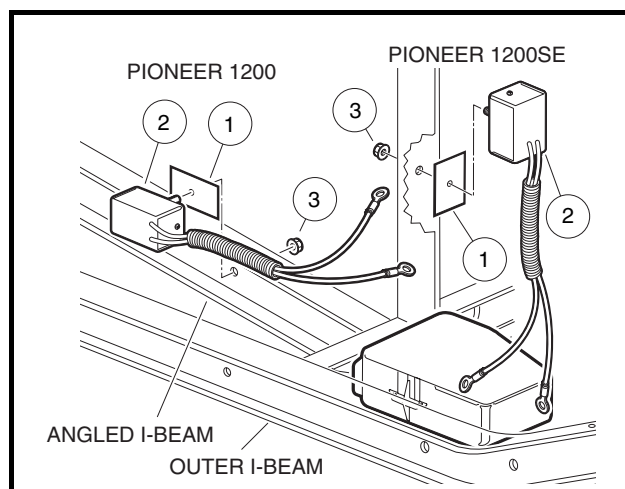
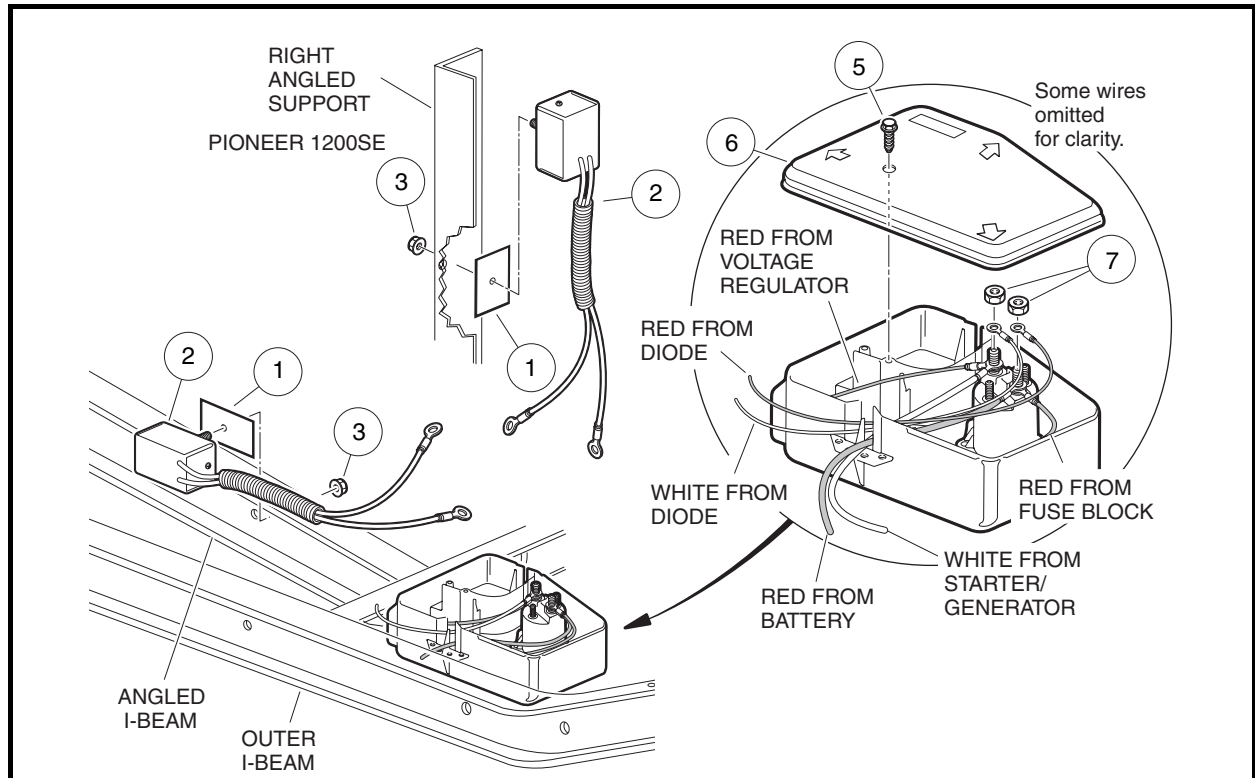

Figure 12-16 Location of Diodes
Figure 12-17 Electrical Control Box and Diode Orientation
4. Remove the cover screw (5) and electrical component box cover (6) (**Figure 12-17, Page 12-13**).
5. Remove the nuts (7) from the two large solenoid posts and disconnect the diode wires from the solenoid.
6. Remove the nut (3) and remove the diode (2) and thermal transfer pad (1) from the vehicle frame (**Figure 12-16, Page 12-12**).
2. Peel the protective film from both sides of the new thermal pad (1) (**Figure 12-17, Page 12-13**). **See following CAUTION.**
3. Mount the diode (2) using the thermal transfer pad (1) and mounting nut (3) and tighten to 25 in-lb (2.8 N·m) (Figure 12-17, Page 12-13). See following NOTE.
NOTE: See the different locations for the diode (Figure 12-16, Page 12-12 or Figure 12-17, Page 12-13).
- 4.1. Connect the 12-gauge red wire from the diode to the solenoid post with the fuse block and battery red wires and tighten locknut to 90 in-lb (10.2 N·m) (Figure 12-17, Page 12-13).